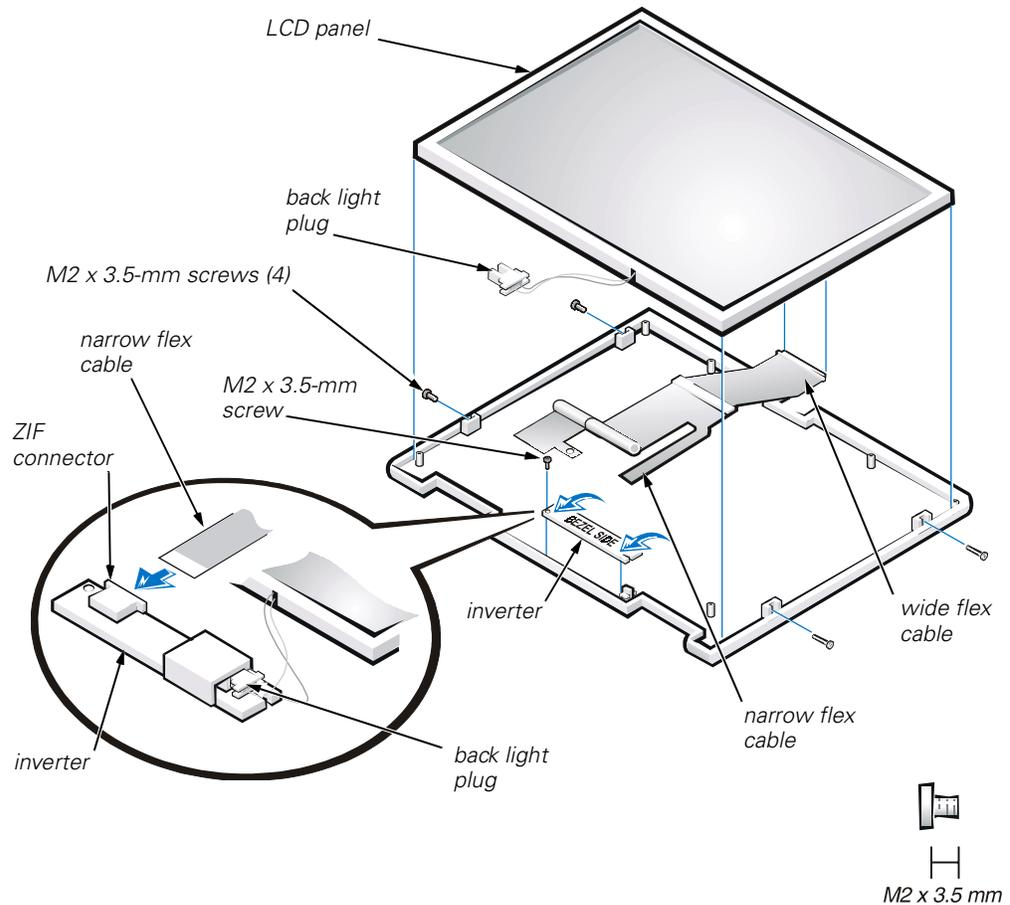

Figure 11. LCD Panel Removal
5. Remove the four M2 x 3.5-mm screws on the left and right sides of the display assembly that secure the LCD panel to the top cover (see Figure 11).
7. Lift and roll the inverter over (toward you), so the bezel side is down (see Figure 11).
9. Disconnect the two-wire back-light plug from the connector on the right side of the inverter (see Figure 11).